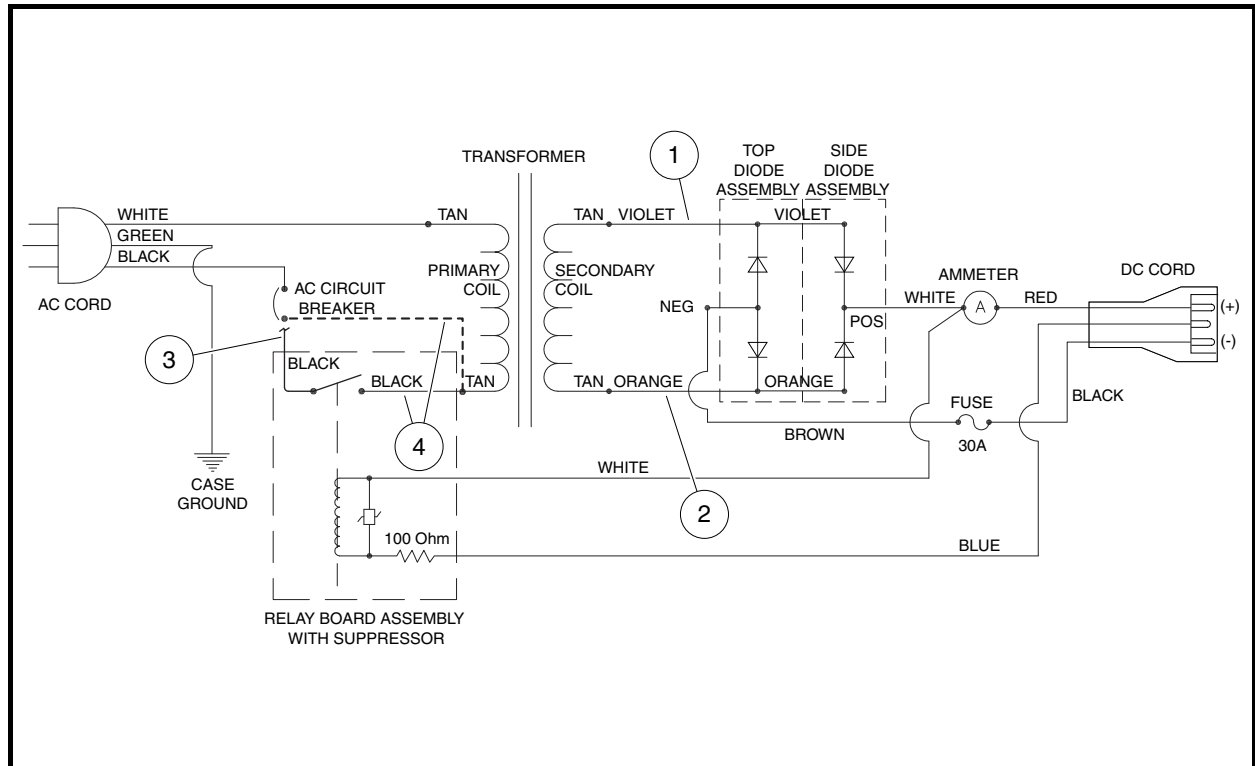

Figure 7-25 PowerDrive 3 Charger Wiring Diagram (Relay Bypassed)
- To bypass the relay, remove the black wire (3) from the AC circuit breaker and disconnect the black wire (4) from the relay. Connect the black wire (4) to the AC circuit breaker (Figure 7-25, Page 7-35). See following DANGER.
8. Disconnect the transformer wire (4) from AC circuit breaker and connect it to the relay. Connect the black wire (3) from the relay to the AC circuit breaker (Figure 7-25, Page 7-35). See following WARNING.